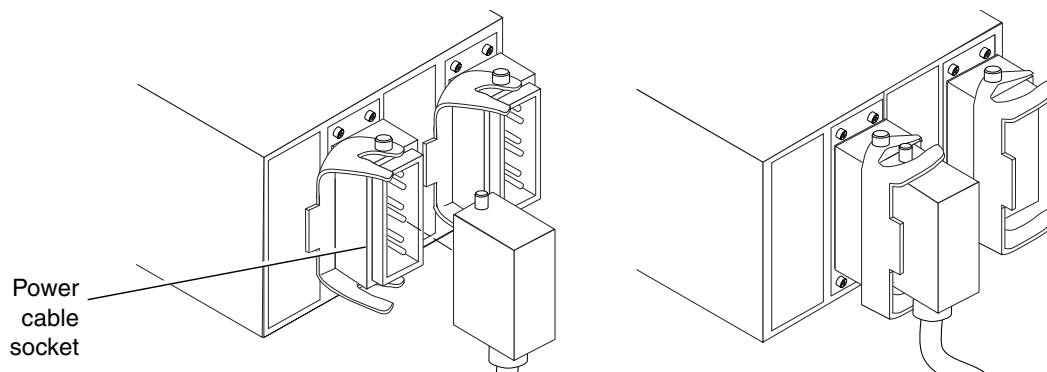

FIGURE 2-8 Connecting Power Cables to the RTS Module
7. Connect the power cable to the RTS module and lock the connector with the lock lever (FIGURE 2-8).